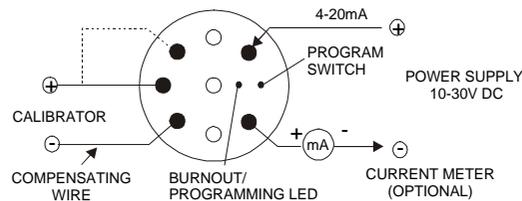

Figure 3
1. Connect circuit as shown in Figure 3 and set the TC calibrator for temperature required at 4mA, switch on and allow 2 minutes warm up time (for best accuracy).